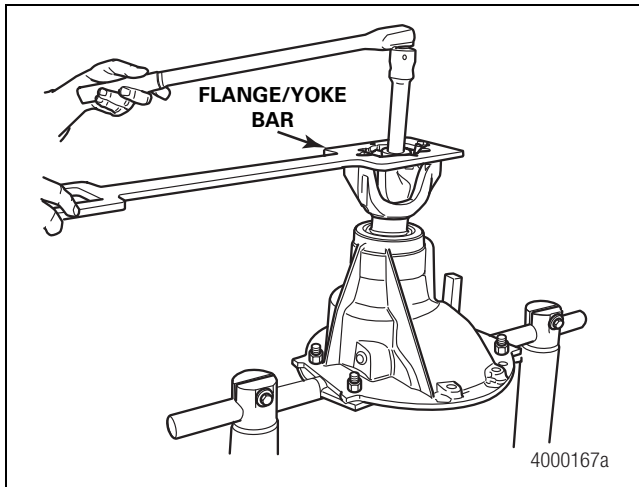

Figure 3.20
1. Fasten a flange bar to the input yoke or flange. When you remove the nut, the bar will hold the drive pinion in position. Refer to Section 9 for instructions to make a yoke bar. Figure 3.20.
2. Remove the nut and washer, if equipped, from the drive pinion. Figure 3.20.